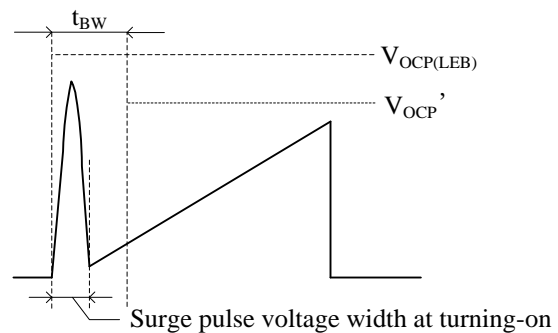
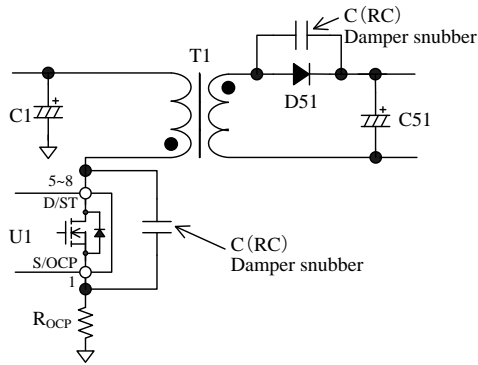

Figure 9-12. S/OCP Pin Voltage
Figure 9-13. Damper Snubber
During Leading Edge Blanking Time, the OCP threshold voltage becomes $V_{OCP(LEB)} = 1.69\text{ V}$ which is higher than the normal OCP threshold voltage as shown in Figure 9-12. Changing to this threshold voltage prevents the IC from responding to the surge voltage in turning-on the power MOSFET. This function operates as protection at the condition such as output windings shorted or unusual withstand voltage of secondary-side rectifier diodes.
When the power MOSFET turns on, the surge voltage width of the S/OCP pin should be less than t_{BW} , as shown in Figure 9-12. In order to prevent surge voltage, pay extra attention to R_{OCP} trace layout (see Section 10.2). In addition, if a C (RC) damper snubber of Figure 9-13 is used, reduce the capacitor value of damper snubber.